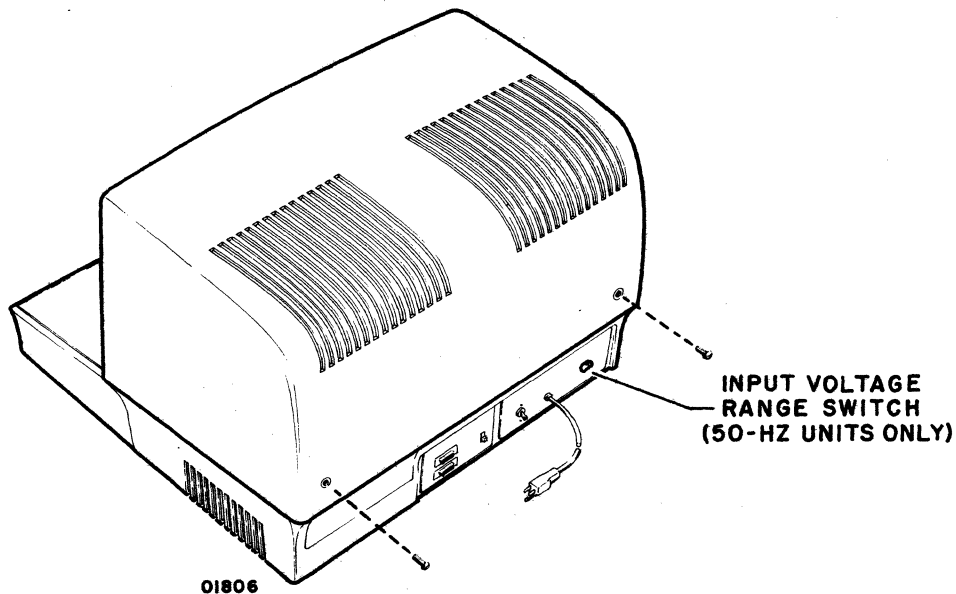

Figure 3-8. Cabinet Hood Removal and 50-Hz Voltage
- 4) Remove cabinet hood by unscrewing two mounting screws in rear of cabinet (figure 3-8) and carefully sliding hood back and up.